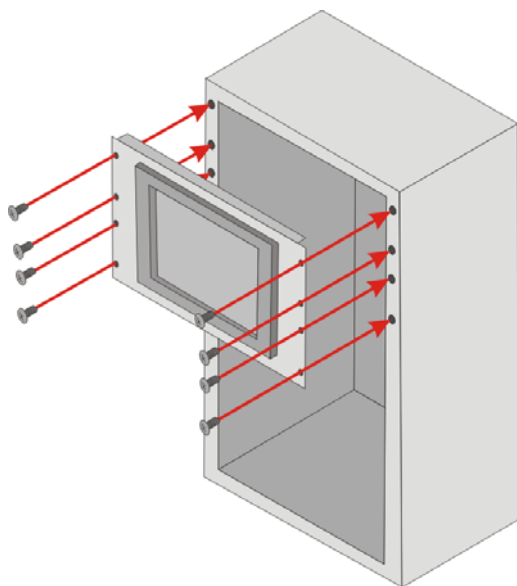

Figure 3-28: Install into a Rack/Cabinet
Step 4: Slide the flat panel PC with the attached rack/cabinet bracket into a rack or cabinet (**Figure 3-28**).
Step 5: Once the flat panel PC with the attached rack/cabinet bracket has been properly inserted into the rack or cabinet, secure the front of the rack/cabinet bracket to the front of the rack or cabinet (**Figure 3-28**).